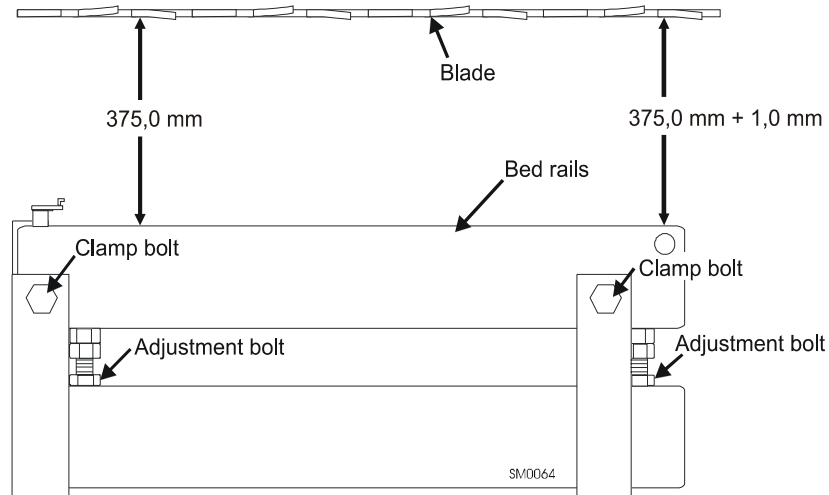

**FIG. 5-24**
**See Figure 5-24.** Loosen the locking set screws and turn the inner height adjustment nut to adjust the height of the inner end of the pivot rail. Loosen the jam nut and turn the outer adjustment bolt to adjust the height of the outer end of the pivot rail.